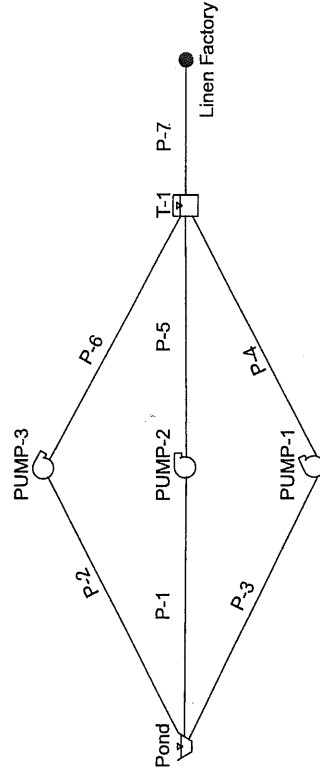

Figure 6-8: Schematic of Example Problem
Three main parallel pumps draw water from a source with a water surface elevation of 58.0 m. Two pumps are set aside for everyday usage, and the third is set aside for emergencies. Each pump has a set of controls that ensure it will run only when the water level in the tank reaches a certain level. Use the Hazen-Williams equation to determine friction losses in the system. The network layout is given in Figure 6-8; the pump and pipe data are given in the tables below.
- Begin with the pipeline running horizontally through the center of the system. Because you selected **Schematic** in the **Drawing Mode** field, you do not have to layout the system exactly as shown in the problem statement. You can roughly sketch the schematic by following the instructions here. You will likely have to rename many of the elements to match the names shown in Figure 6-8. The steps below will describe how to do this.